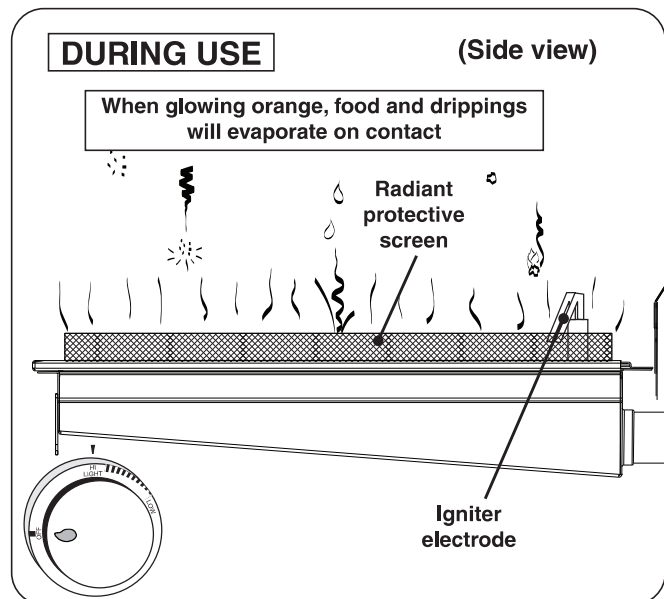

Fig. 28-3 Infrared burner - DURING USE
- **DO NOT place food on the cooking grid until the infrared burner glows orange (Fig. 28-3).** Drippings are heated and evaporate instead of sticking to and impairing burner function.